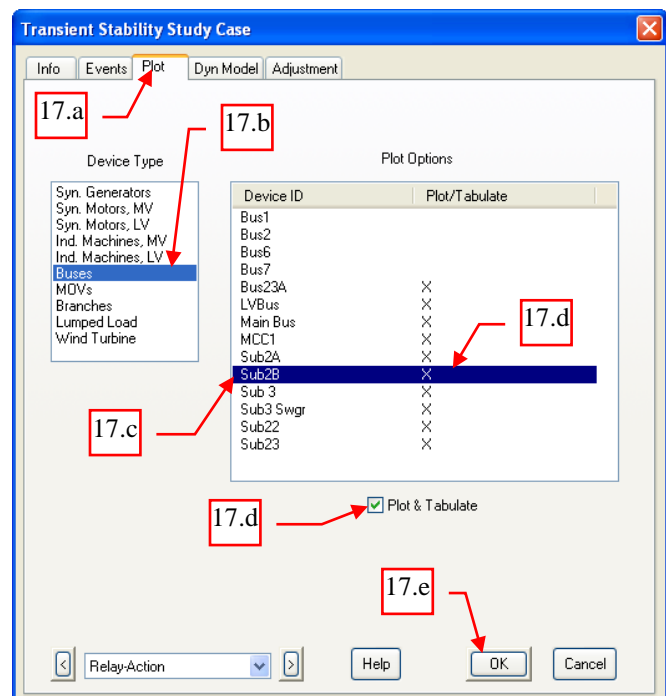

Fig. 11
17. Since the concern is to verify frequency at bus “Sub2B” when “CB1” opens, instruct the program to create plot profiles for the said bus. See Fig. 11.